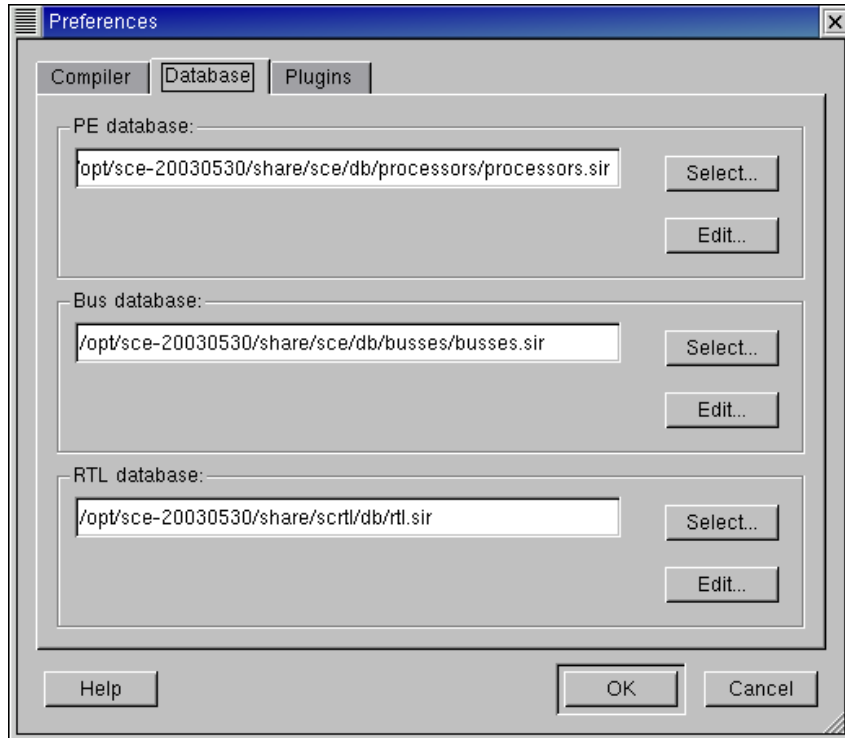
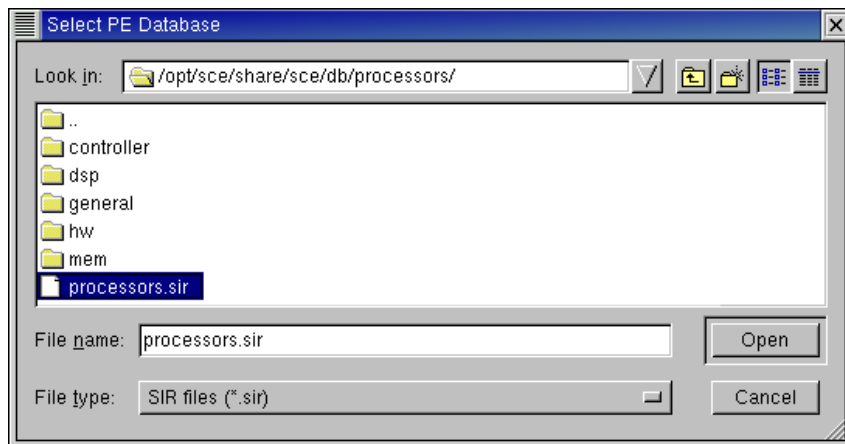

Figure 15: Edit Preferences dialog (Database tab).
Figure 16: Database Selection dialog.
- (b) The Database tab allows for viewing and selecting of database file paths. The screenshot for Database tab is shown in Figure 15. Users can type in the file names and paths of PE, Bus and RTL databases in *PE Database*, *Bus Database*, and *RTL Database* line edit boxes. Besides typing in the databases file names, users can also select the names by using *Select* buttons next to the edit boxes. Clicking *Select* button will pop up a Database Selection dialog displayed in Figure 16